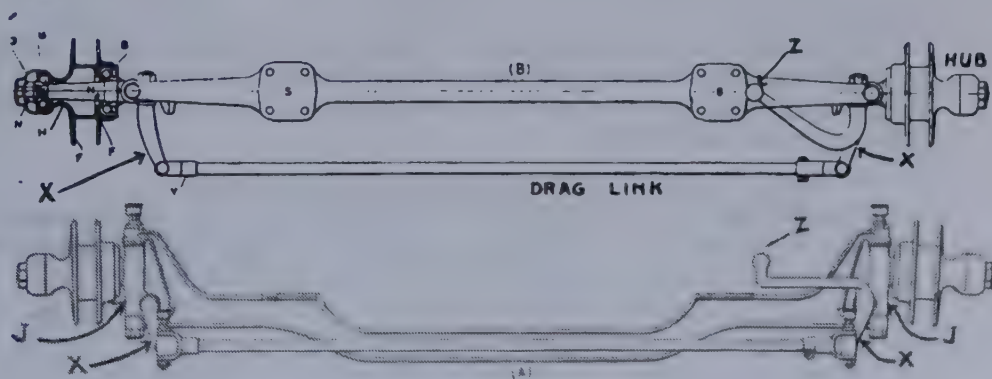

Fig. 6—Top and side view of a Front Axle and Steering Knuckle and Connections.
- X—Rod connecting with Drag Link (see fig. 6, Chart 5.)
Each of the Pivoted Axle Ends, which are called **STEERING KNUCKLES**, has a **STEERING ARM** projecting from it, pointing backward or forward, **NOT** up or down. (See "X" Fig 6, Chart 5.)